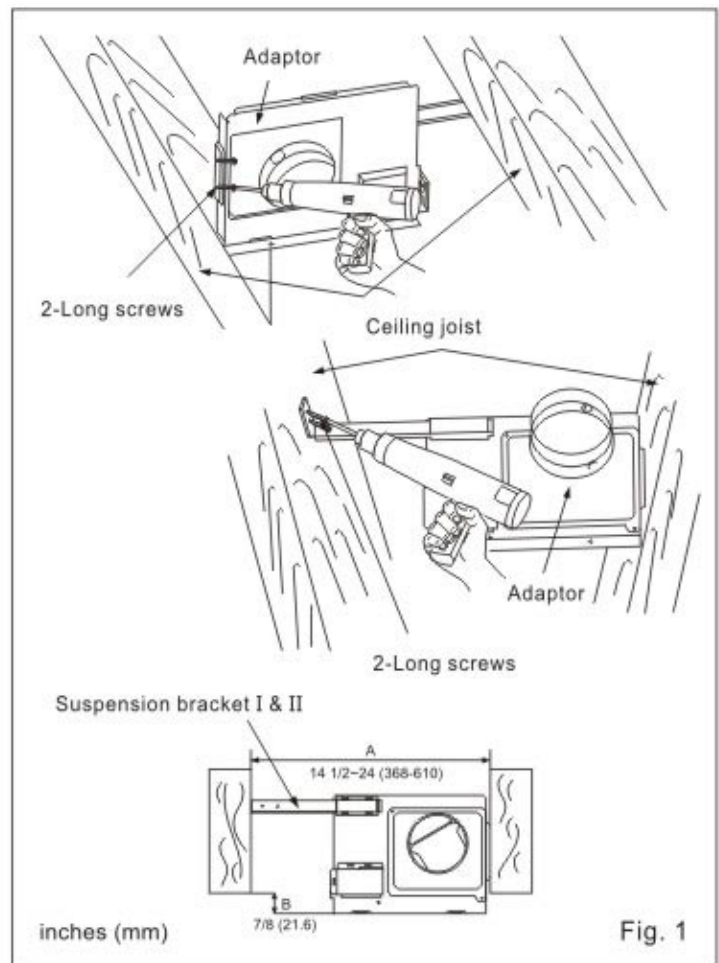

Fig. 1
2. Remove adaptor from body and secure to ceiling joists using long screws. (Fig.1)
3. Remove adaptor from fan body and secure to ceiling joists as in Fig.1 of page 6.